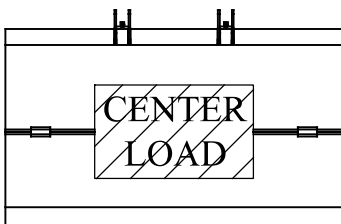

Figure 38: Step 8.
- To load and use the liftgate, **center** the load on the platform side to side and front to back (Figure 38). Put heavier loads as close to the front of the platform (near truck) as possible. Platform cart stops may be actuated at this time, if equipped.